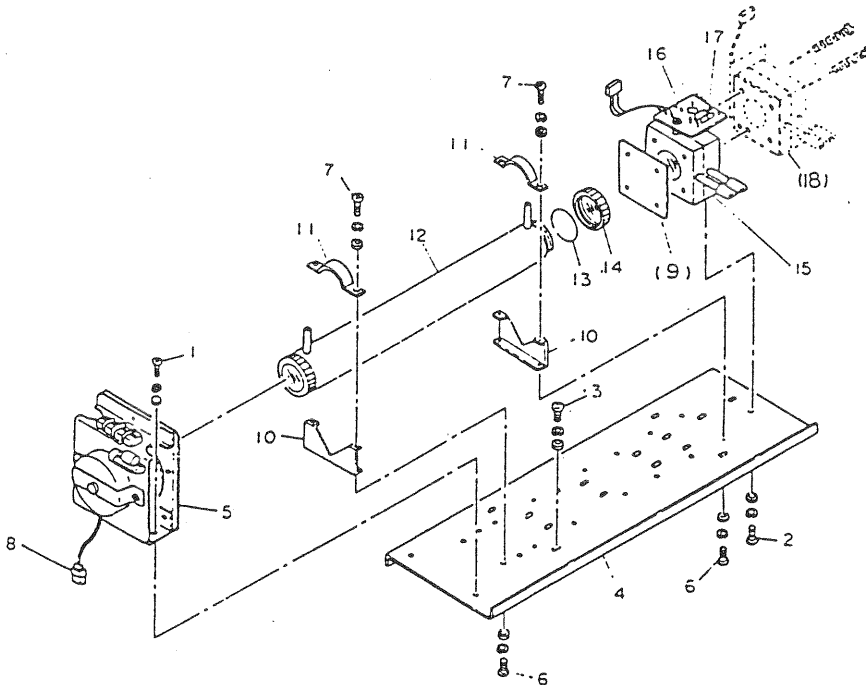

Fig. 6.1 Exploded view of measuring unit
(1) How to disassemble pipe cell (refer to Fig. 6.1)
- e. Displace the infrared source unit (No. 5 in Fig. 6.1) by loosening
- 2 fixing screws(No.1 in Fig. 6.1) to base plate so as to make a gap between pipe cell(No.12 in Fig.6.1) and IR source unit.
- f. Loosen and detach 4 screws(No.7 in Fig.6.1) of the cell holders (No.11 in Fig. 6.1).
- g. Remove the cell from measuring unit then detach both windows (No.14 Fig. 6.1) by rotating the window holders anticlockwise.
### 7.2.1 DETECTOR(No.15 IN FIG. 6-1)